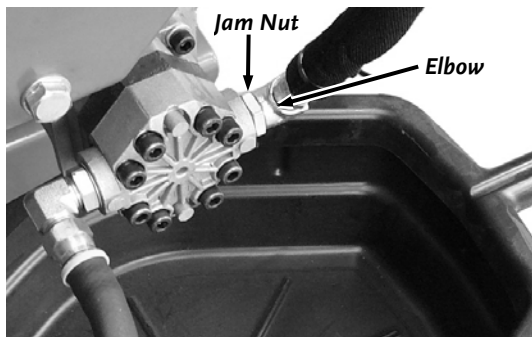

Figure 5
1. Loosen the Jam Nut with a 24mm Wrench and back it off until it stops (**Figure 5**).